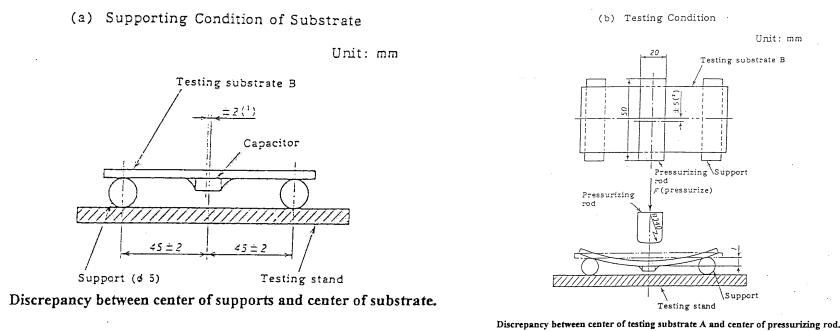

Fig.2 Flexural test of substrate
- 2.2 The substrate shall be so placed with its surface on which capacitor is mounted downwards that the center of capacitor coincides with the center of supports as illustrated in Fig2.